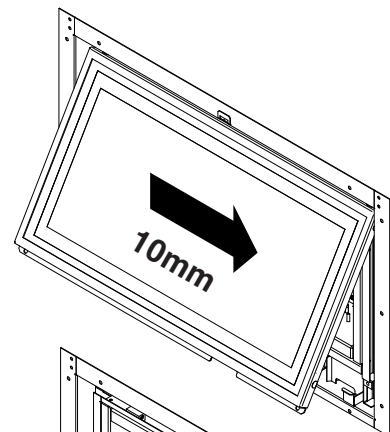

Fig. 62
3. Slide the door to the right by 10mm and remove the door from it's hinges (Fig. 62 & 63).